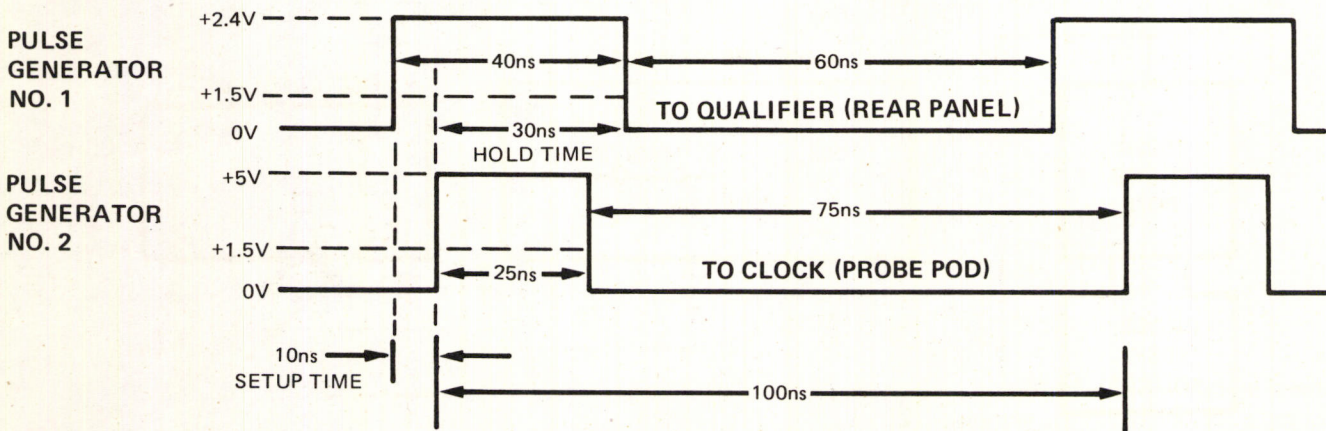

Figure 4-7. Minimum High Inputs (Rear Panel) Test Waveforms
- e. Adjust pulse generators No. 1 and No. 2 as shown in figure 4-7. Verify that qualifier condition is valid when pulse generator No. 1 input is $\geq +2.4$ V.